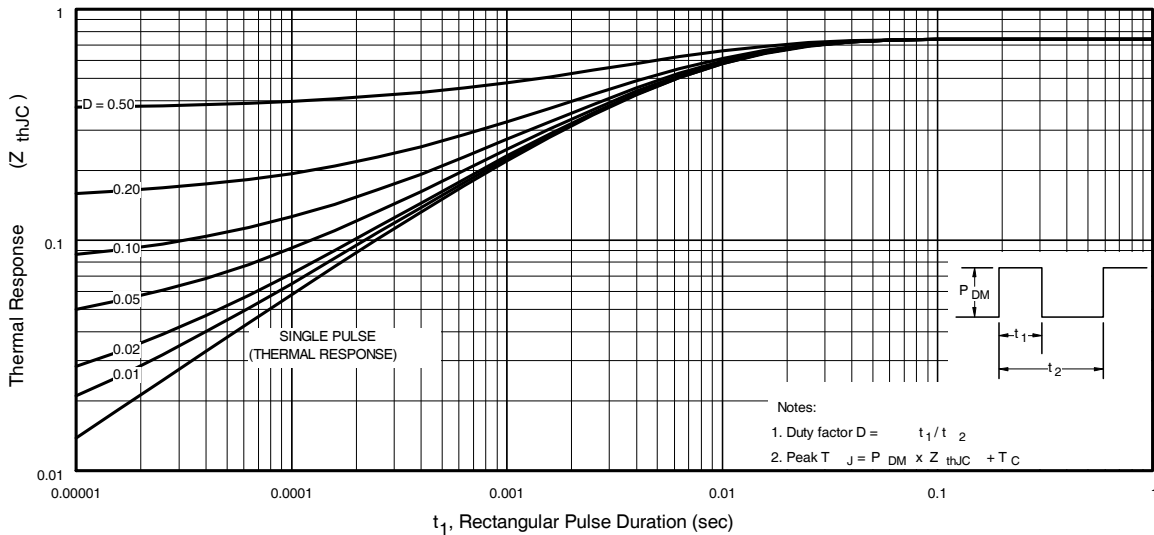

Fig 11. Maximum Effective Transient Thermal Impedance, Junction-to-Case
- ① Repetitive rating; pulse width limited by max. junction temperature. (See fig. 11).
- ② Starting T_J = 25°C, L = 0.063mH
$Z_{thJC}(D, t_{av})$ = Transient thermal resistance, see figure 11)